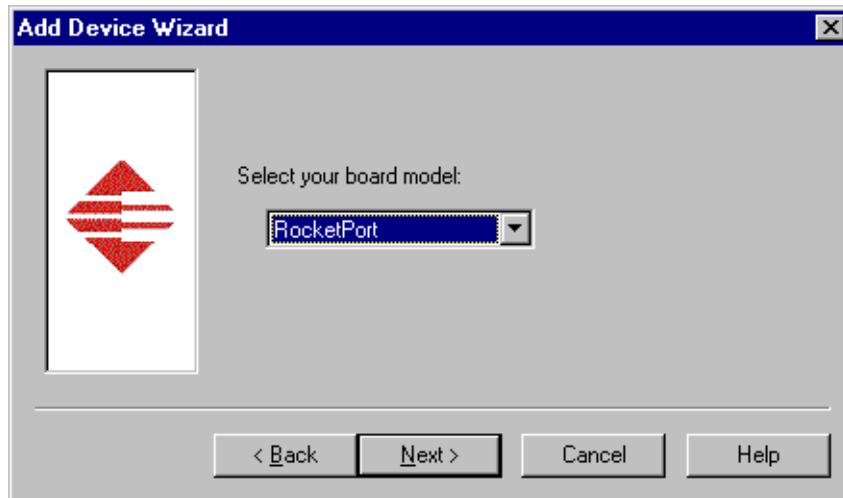

Figure 4. Select RocketPort board model.
9. Select RocketPort as the board type (see Figure 4), then click **Next**.